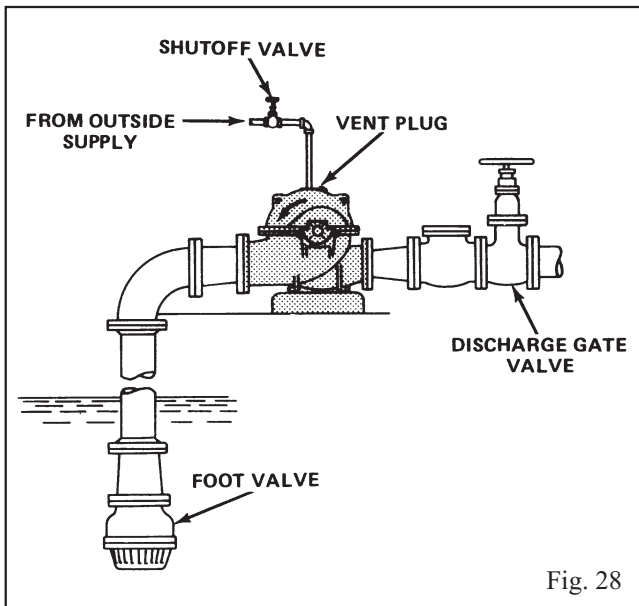

Fig. 28
1. **Outside Supply** (Fig. 28). Close discharge gate valve, remove vent plug, and open valve in priming supply line until all air is expelled and water issues from vent openings. Close air vents, close valve in priming supply line, and start pump; then open discharge gate valve.